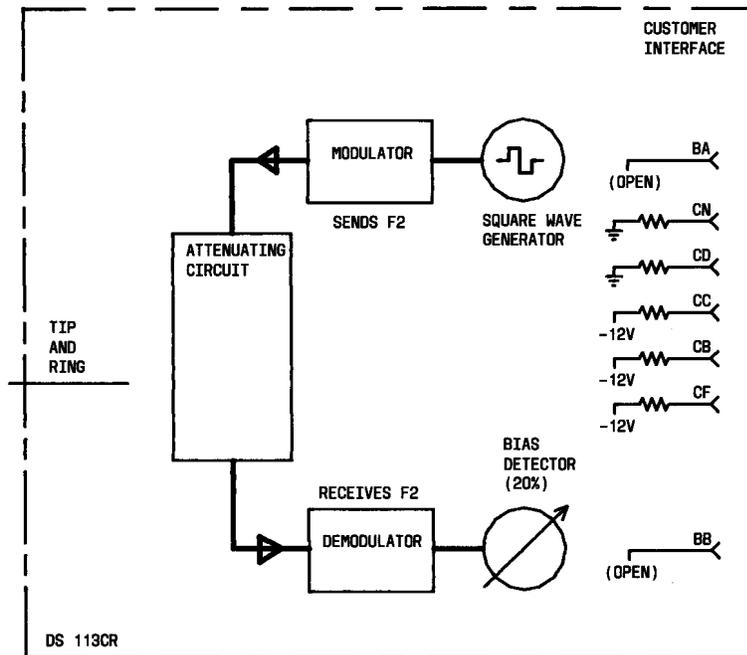

Fig. 3—Local Self Test Mode—Simplified Block Diagram
**2.08** In the local self test (Fig. 3), the data set goes through the handshaking sequence. The square wave signal is applied to the transmitter, looped through an attenuating circuit to the receiver, and the demodulated signal is checked by the bias detector. In this way, most of the circuits of the data set are checked. The MC lamp goes off after a short delay if the bias of the received data signal is under 20 percent. All other lamps except TR are lighted, indicating proper operation of the set. The TR lamp is lighted if the CPE has the CD lead turned *on*.